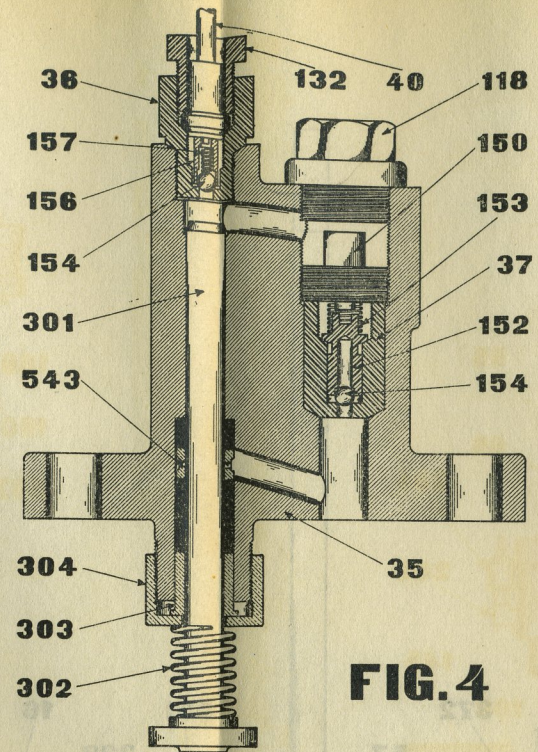

FIG. 4
One essential feature of the engine, which for best results, must always be in perfect mechanical condition, is the fuel injection pump (35), Figure 4. To examine the pump unscrew the pipe gland (132) and hold your hand over the opening, or preferably screw a plug into the opening. If the plunger can be moved quite easily by means of the handle (123) it is a sign that the suction valve or stuffing box leaks, or that there is air entrapped in the pump. If there is no air in the pump, the plunger will move hard and only slowly for the only means of escape for the oil is along the pump plunger and with a well-packed stuffing box, the oil will leak past only very slowly.